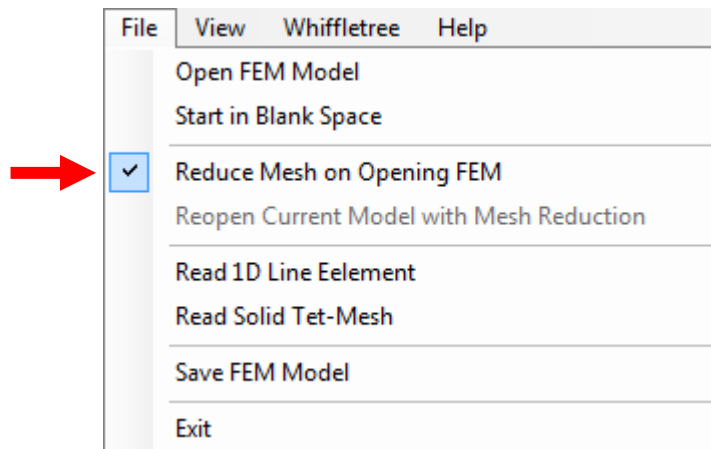

Figure 3-4
1. Before opening FEM file, select "Reduce Mesh on Opening" FEM in "File" Menu. You will see that the option is checked. (Figure 3-4)